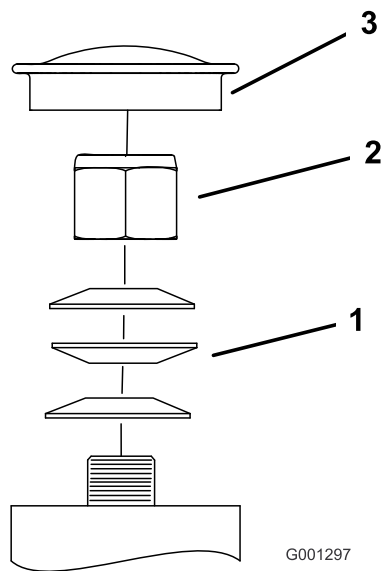

Figure 59
- Remove the dust cap from caster and tighten lock nut (Figure 59).
- Tighten the locknut until the spring washers are flat and then back off a 1/4 turn to properly set the pre-load on the bearings (Figure 59).
Important: Make sure spring washers are installed correctly as shown in Figure 59.
- Install the dust cap (Figure 59).